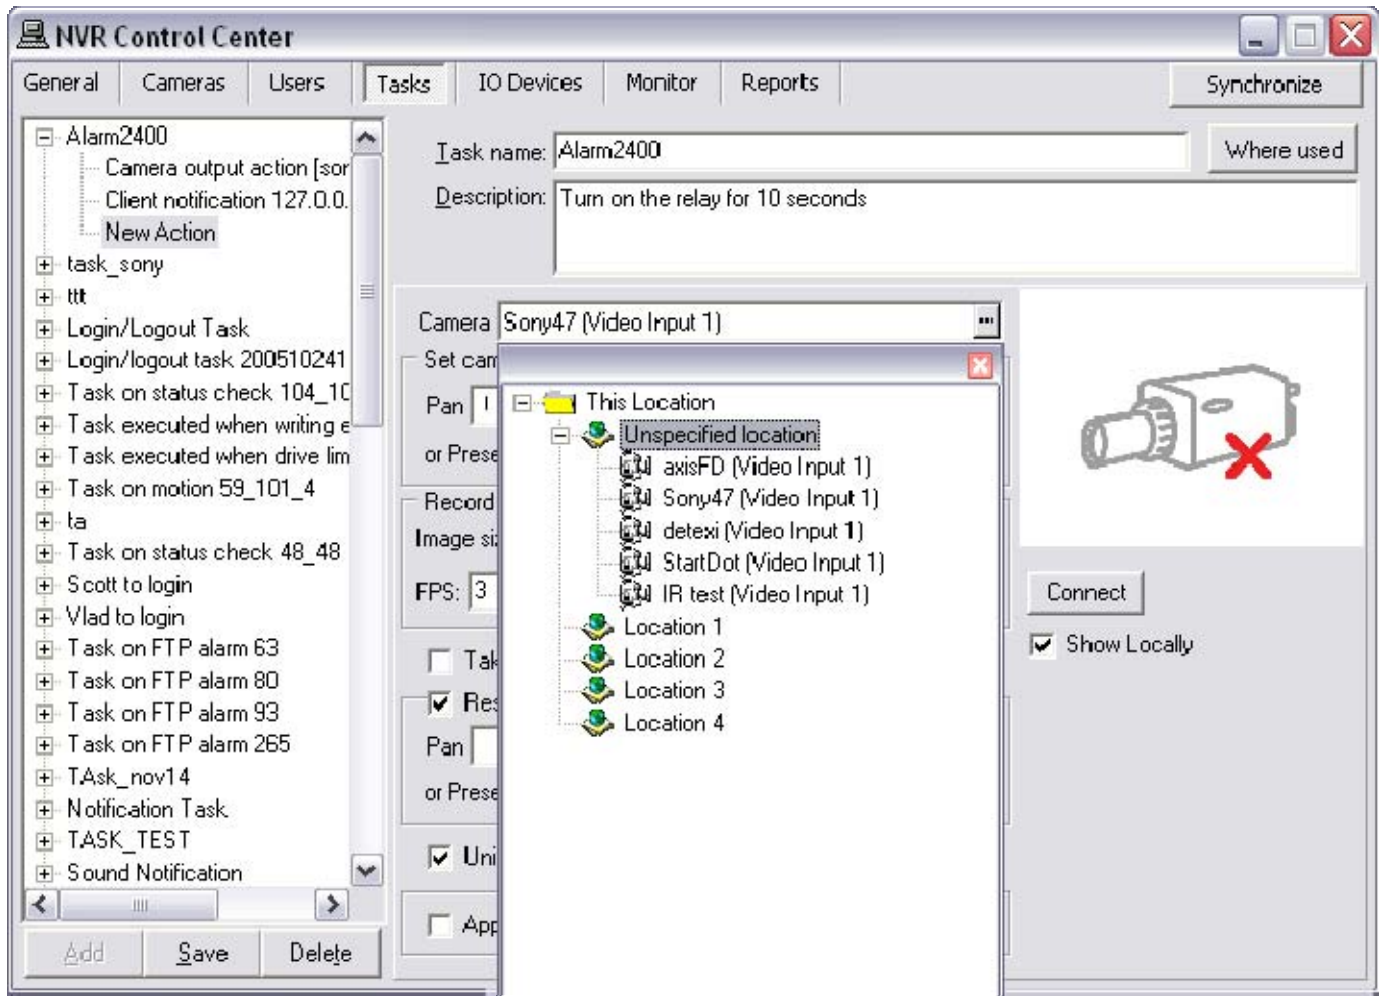

Fig 76. NVR Control Center — Tasks
1. Choose camera to configure from the **Camera** drop-down list (Fig 76).